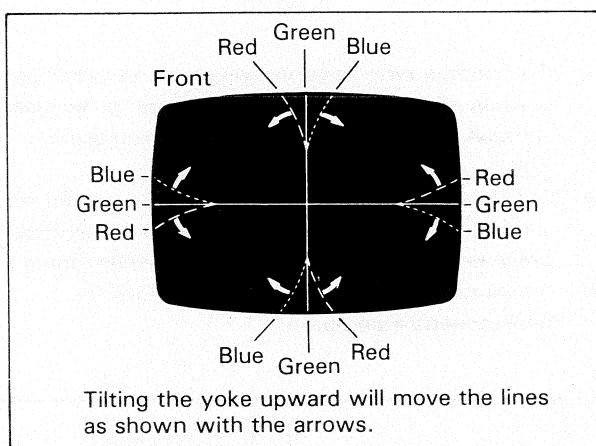

Fig. 2-10
- 2) Adjust convergence as shown in Fig. 2-10 by tilting the yoke up and down, then insert the wedge on top.